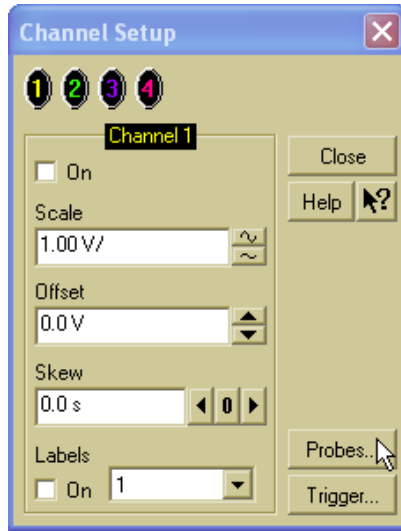

Figure 65 Channel Dialog Box
- 2 In the Channel Setup dialog box, select the Probes... button, as shown in Figure 65.